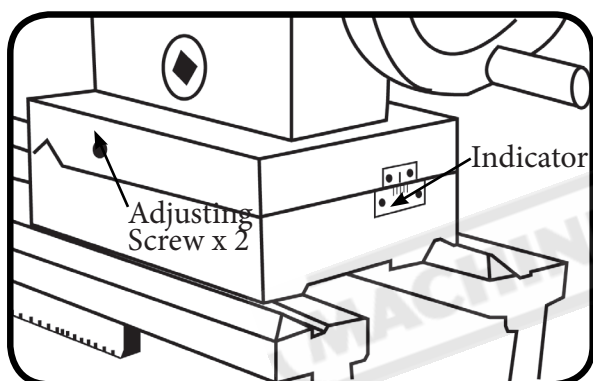

Fig. 22
**Note:** The marks on the indicator on the end of the tailstock are only a guide. For a precise offset, use a dial indicator to check while adjusting the screws that are located on both sides of the tailstock.. (Fig. 22)
If the test stock is larger at the tailstock end, then adjust the tailstock toward the front of the lathe 1/2 the distance of the difference. ( See Fig. 22 for adjustment screws)